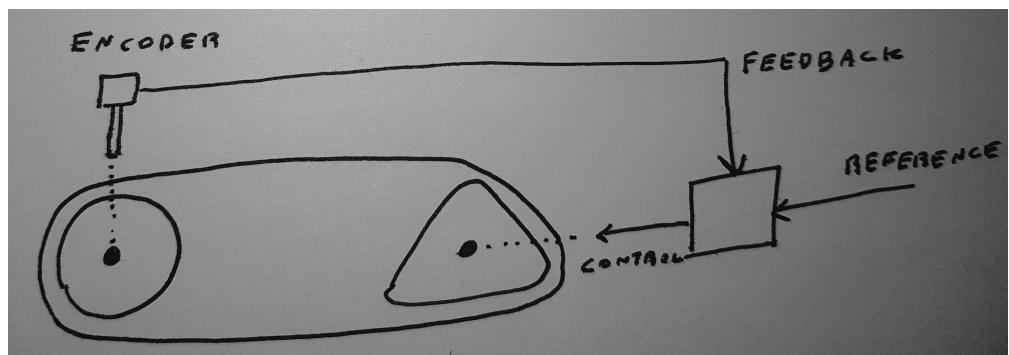

Figure 3: Possible control system using encoders. The reference can be the g-code.
- Using the encoders we can create a control system to reduce the error. See Figure 3.